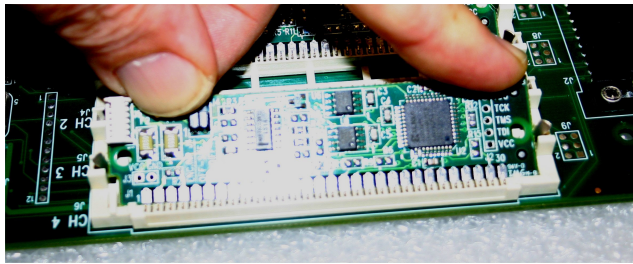
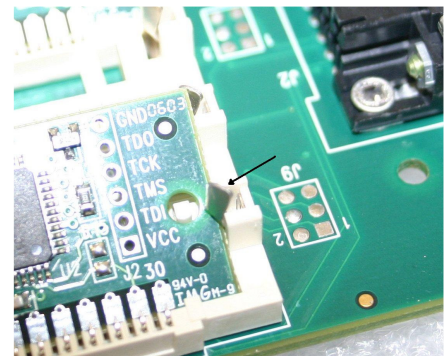

Figure 1.
Figure 2.
**Step 2:** In the encoder kit is an encoder module. Install this module in the position marked CH 4 on the TLASer400 card (See Figure 1), making sure that it is fully seated in the slot and restrained on both sides by the metal retaining clips (See Figure 2).